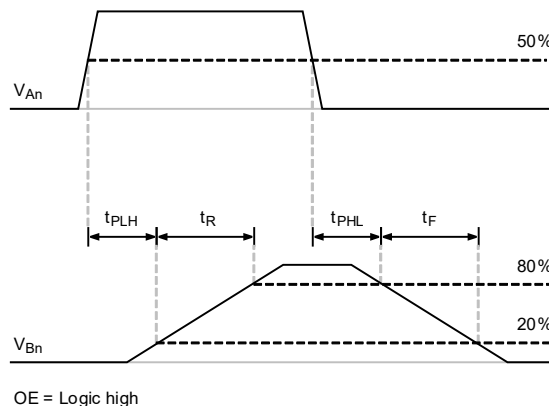

Figure 14. Turn ON and Turn OFF Timing
1. Turn ON propagation delay is measured from the time the input (An or OE) is 50% ON to the time the output (Bn) is 20% ON and rising. See Figure 14, “Turn ON and Turn OFF Timing,” on page 29 for measurement details.
2. Turn OFF propagation delay is measured from the time the input (An or OE) is 50% ON to the time the output (Bn) is 80% ON and falling. See “Figure 14. Turn ON and Turn OFF Timing” for measurement details.
4. Output rise time is measured from the time the output is 20% ON to the time the output is 80% ON. For sinking output devices (Si8301x), rise time is determined by load conditions. See “Figure 14. Turn ON and Turn OFF Timing” for measurement details.
5. Output fall time is measured from the time the output is 80% ON to the time the output is 20% ON. For sourcing output devices (Si8300x), fall time is determined by load conditions. See “Figure 14. Turn ON and Turn OFF Timing” for measurement details.